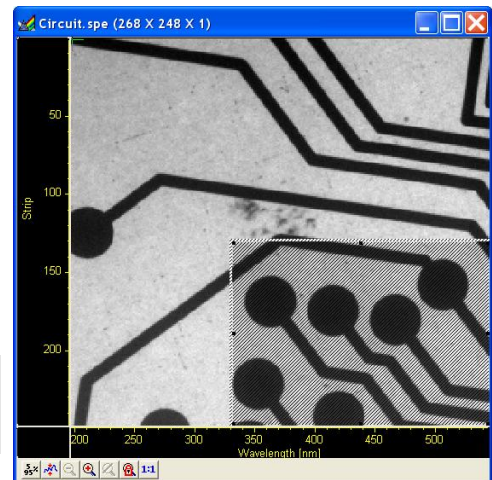

Figure 95. Circuit.spe with Region Selected for Viewing
1. Using the mouse, position the cursor at one corner of the region to be defined, depress the left mouse button, drag the cursor to the diagonally opposite corner, and release the mouse button. Refer to Figure 95.